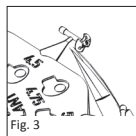

Fig. 3
■ **Fig. 3** The sizer selected for the measurement process is cut out using microscissors and carried to the middle ear using an aspirator or other microsurgical instrument.